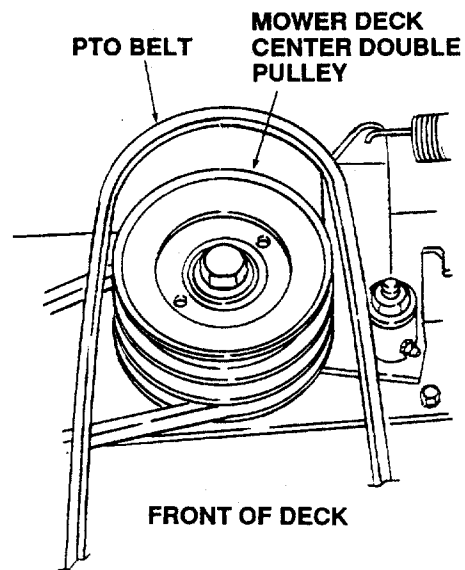

Figure 56
13. Install the rearward end of the PTO belt on the upper pulley of the deck center double-pulley (Refer to Figure 56). Ensure that the narrow side of the belt engages the groove of the upper pulley.